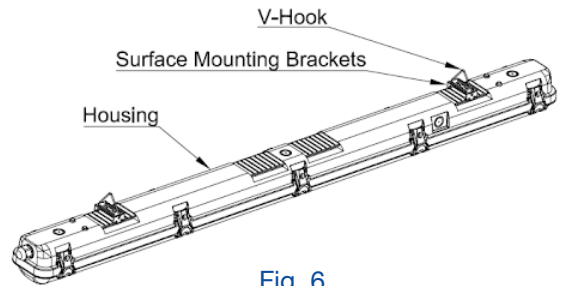

Fig. 6
1. Secure Surface Mounting Brackets to Housing (Fig.6).
2. Install the V-Hook on Surface Mounting Bracket (Fig.6).